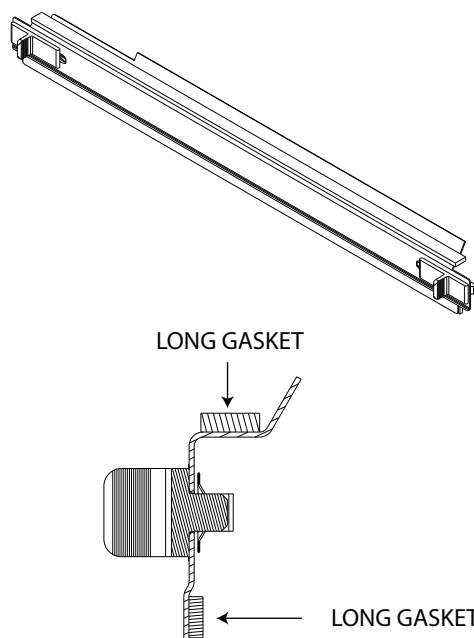

Fig. 2 – Upper Door and Filter Door
5. Apply the gasket to the bottom edge of the upper door as shown in Figure 2.
6. Apply two long gaskets to the filter door as shown in Figure 2.